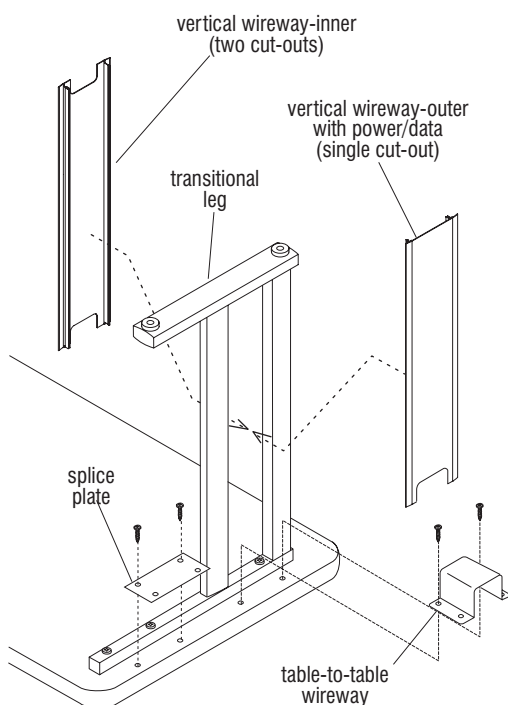
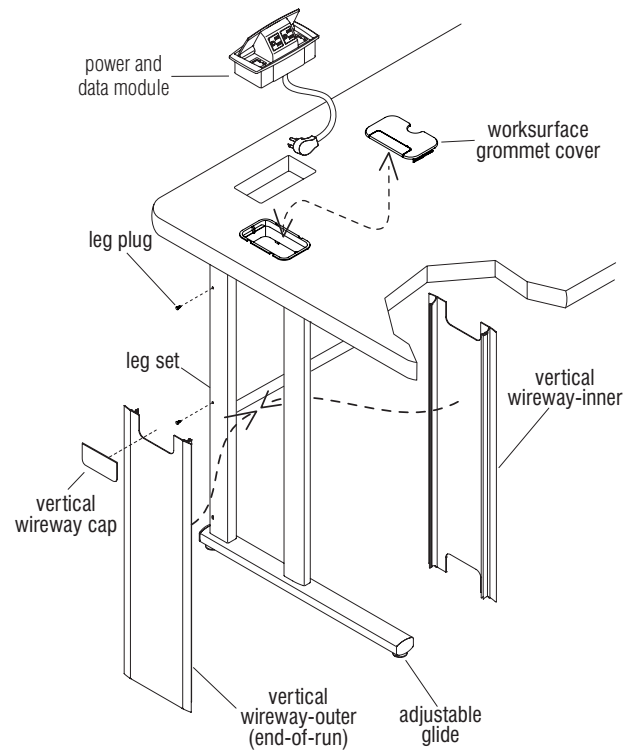

Figure 2
Figure 3
Note: In the instance where a work surface is to be paired with a transitional unit, a leg set with a short transitional foot (Figure 2) will be assembled to the end of the work surface where the transitional unit is to be attached. Refer to your space-planning layout.
8. Stand worksurface assembly right side up and install two leg plugs into the exposed holes at the outside of each leg set as illustrated (Figure 3).
Note: Two different vertical wireway halves are supplied with power & data tables: The "vertical wireway - inner" (with two cut-outs) is to be installed facing the inside of the table (Figures 2 & 3). The "vertical wireway-outer, with power/data" (single cut-out) (Figures 2 & 3) is to be installed on the outside of a leg, and the cut-out must face the underside of the table. Whenever a "table-to-table wireway" is installed (Figure 2), the vertical wireways must be installed to the leg set before the table-to-table wireway is installed.
9. Vertical wireways fasten into each other from each side of the leg set opening and must be oriented correctly to press together. Begin by first positioning an "outer vertical wireway" (single cut-out), to the outside of the leg set as illustrated, with cut-out closest to worksurface. Next position the inner wireway cover (two cut-outs) in the correct orientation at the inside of the leg set and press it into the outer wireway (Figures 2 & 3). For end-of run tables, press a vertical wireway cap into the upper, outside cut-out in each vertical wireway where no table-to-table wireway is installed (Figure 3).
the leg sets must be tightened up against the bottom of the leg to secure the adjustable glides (Figure 3). Tighten screws that gang worksurfaces at this time.
12. Press worksurface grommets into wireway holes in worksurface top (Figure 3). Route the power and data module cord through the power and data module hole in the worksurface. Snap the power and data module into the module hole (Figure 3). From under the worksurface, with the power/data door opened, plug the power cord into the duplex receptacle on the 10-wire harness. Check for proper operation of the power and data module. To open module push down on the module and it will pop-up. To close, press downward and it will snap closed.